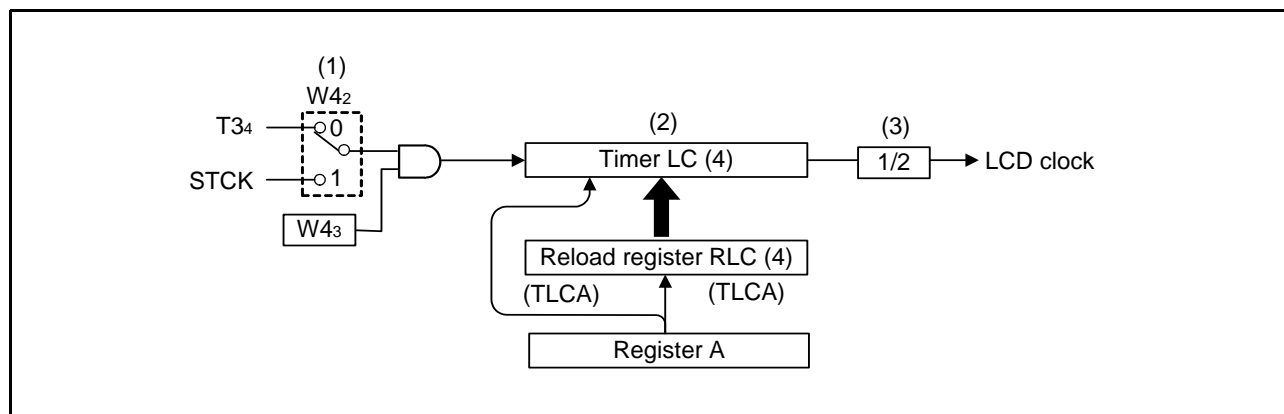

Fig 44. LCD clock control circuit structure
Accordingly, the frequency (F) of the LCD clock is obtained by the following formula. Numbers ((1) to (3)) shown below the formula correspond to numbers in Figure 44, respectively.